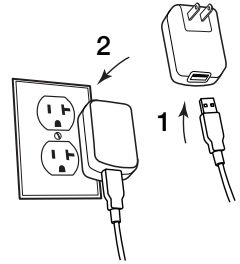

Figure 7
- 2 Insert the other end of the USB cable into the wall charger. See Figure 7.